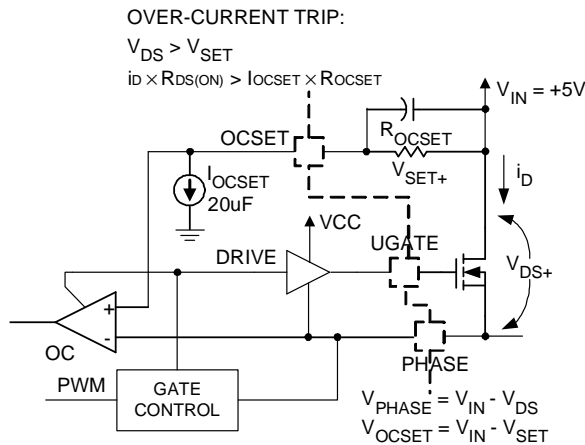

Figure 3
The over current protection (OCP) function of the RT9202B is triggered when the voltage across the  $R_{DS(ON)}$  of upper side MOSFET that developed by drain current exceeds over-current tripping level. An external resistor ( $R_{OCSET}$ ) programs the over-current tripping level of the PWM converter. As shown on Figure 3 the internal  $20\mu A$  current sink ( $I_{OCSET}$ ) develops a voltage across  $R_{OCSET}$  ( $V_{SET}$ ) that is referenced to  $V_{IN}$ . The DRIVE signal enables the over-current comparator (OC). When the voltage across the upper MOSFET ( $V_{DS(ON)}$ ) exceeds  $V_{SET}$ , the over-current comparator trips to set the over-current latch.